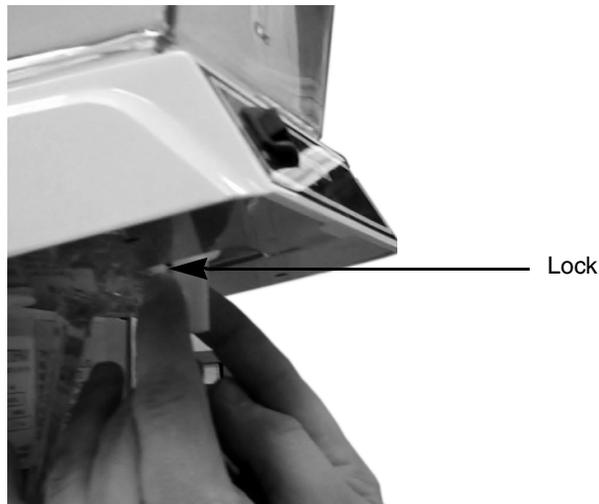

Figure 4.
- C. Squeeze clips until they are free from the panel, then pull straight down on the handle as shown in Figure 4, until it is free from the panel.
4. Remove the pinch tube by pushing the handle until it stops and pulling up on the pinch tube until it is free (See Figure 2.), then remove the handle (See Figure 4.). Lift off the bowl, drip trays and covers. Clean them thoroughly.